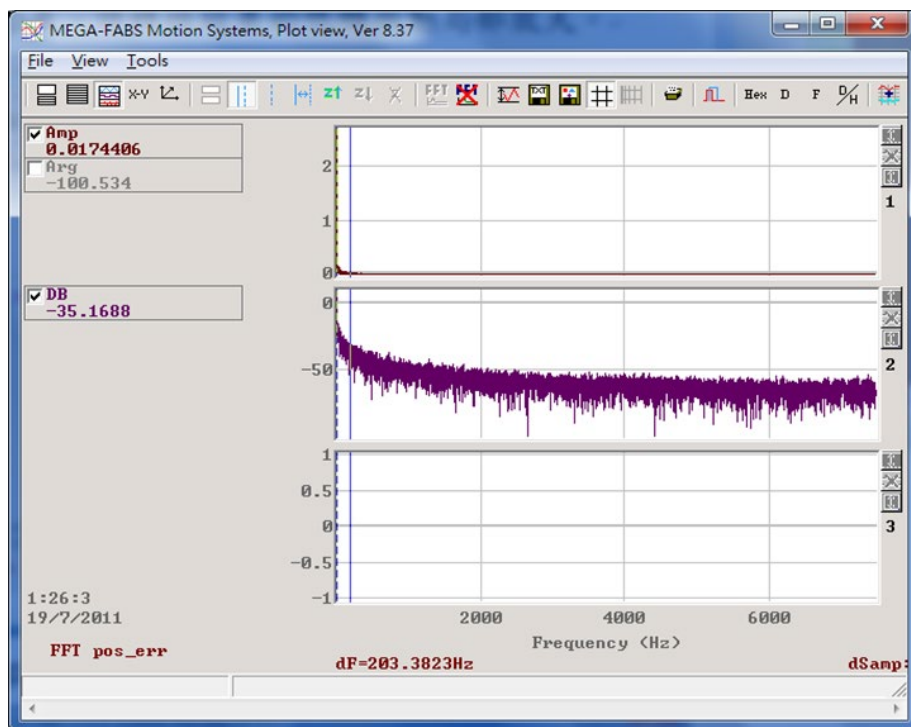

Figure6.6.6.5
- Step 7: Zoom in on the segment of low frequency and record the vibration frequency of the maximum amplitude, as figure 6.6.6.6.